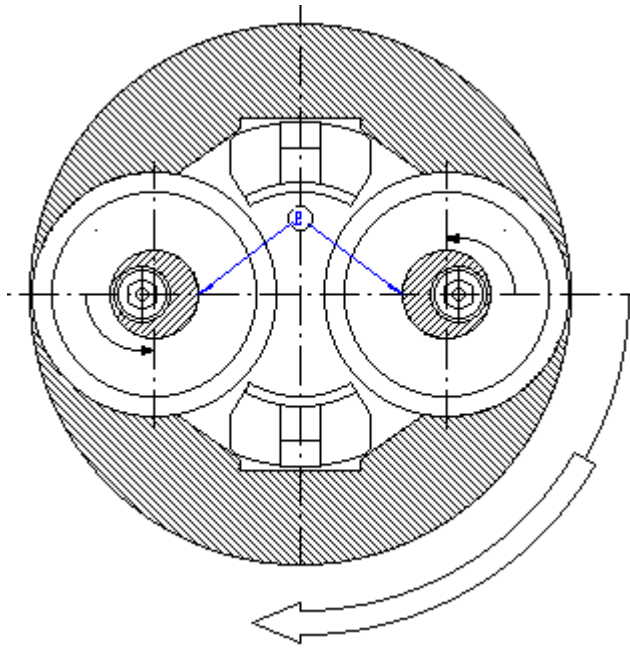

Figure 17 SZLH678 (768) MX granulating machine pressure roller regulation diagram
(2) assembly pressure roller assembly
- B. will pressure roller is installed in the position shown in figure 17 sure arrow "E" shows the eccentric shaft position;